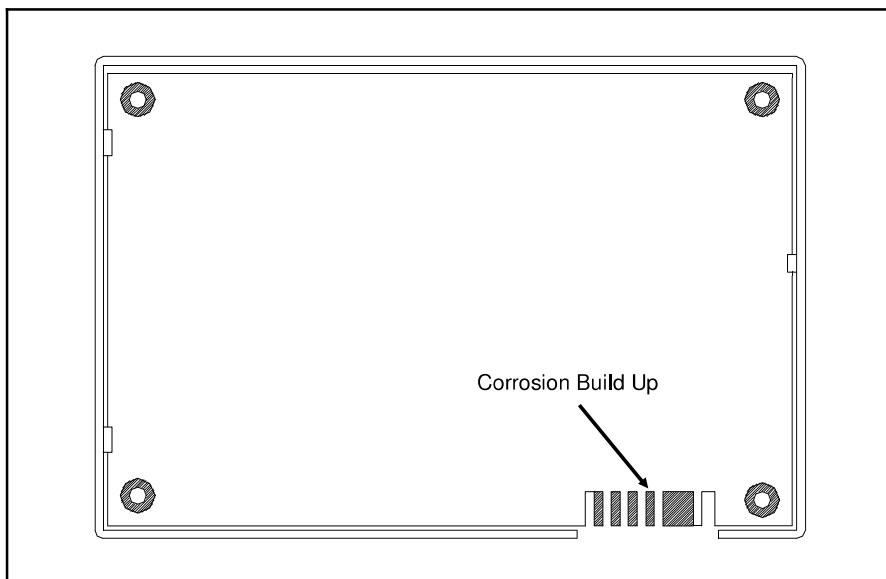

Figure 11.50 Edge Connector Visual Inspection
29. Check for corrosion on the pins of the Ignition Module as shown in Figure 11.50. If corrosion exists clean with an eraser.